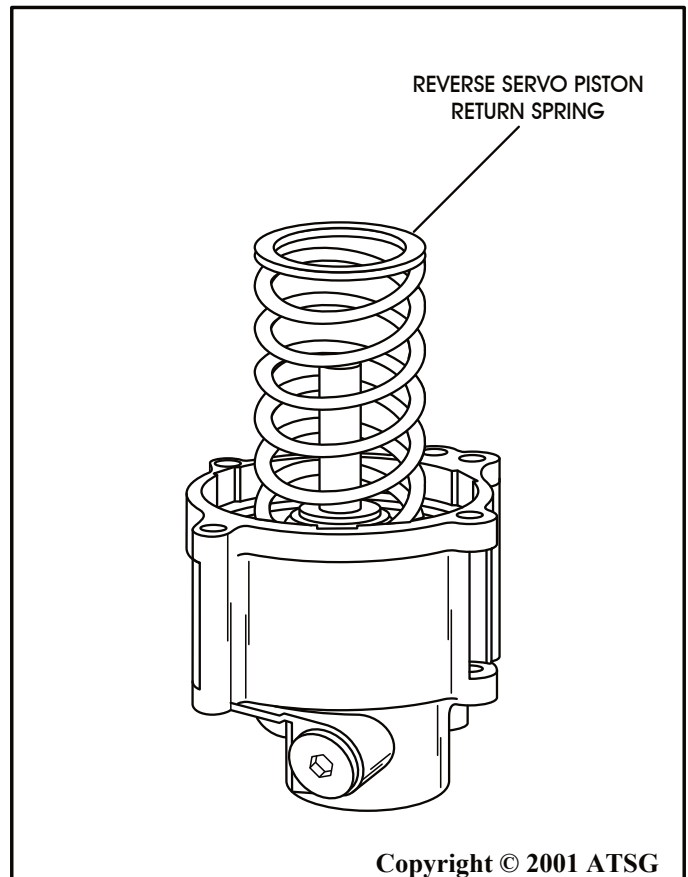

Figure 124
10. Install the reverse servo piston return spring in reverse servo housing (See Figure 124).